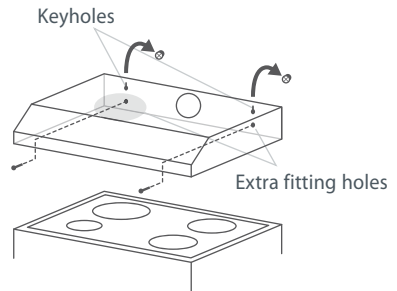

Fig.6 Creating additional means of attachment
- Create additional means of attachment. Keyholes alone are insufficient means of attachment. There are two extra holes found on each side of the back panel. Select one on each side and fit screws (with an anchor if required) to ensure proper attachment, as shown in fig.6. Ensure all fittings are secure.